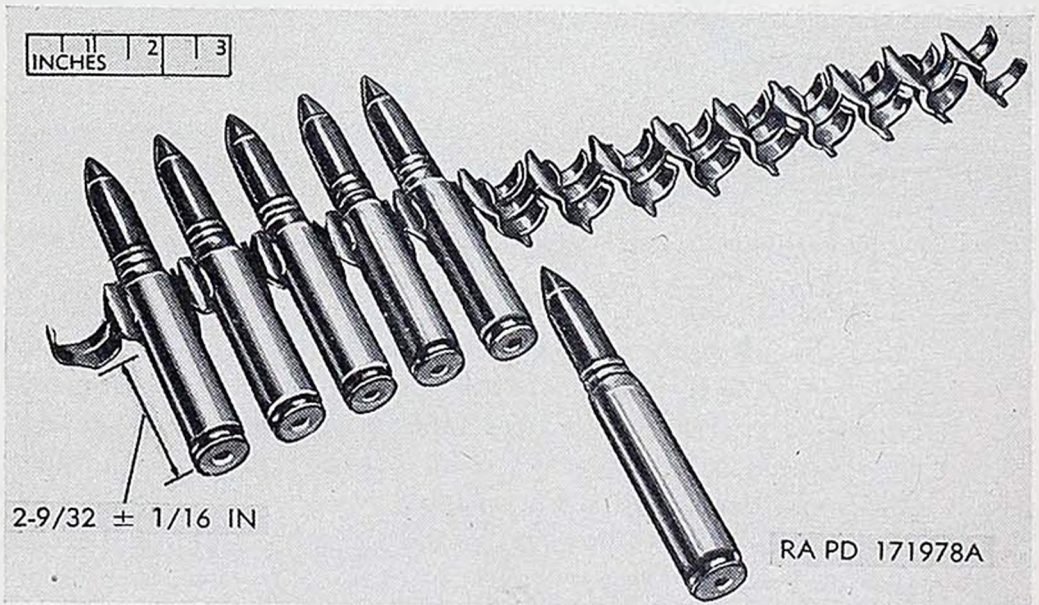
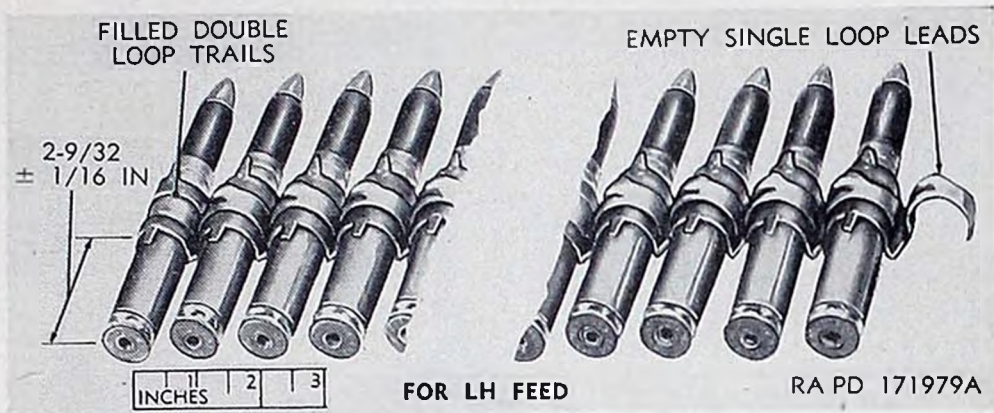

Figure 26. Hand-loading of links M10 (M8E1) for single-loop left-hand feed.
Figure 27. Loaded belt for single-loop left-hand feed.
- (5) Belts may be joined together by eliminating the cartridge from the last double loop of one belt and uniting it with the empty single loop of a second belt, by the insertion of a cartridge. When belts are joined together, prior to installation in the aircraft, it is necessary to repeat the tests given in (3) and (4) above.
c. For Single-Loop Left-Hand Feed. Proceed as in *b* above, but lay the single loops to the left on the belting board, as shown in figure 26. The completed belt is shown in figure 27.